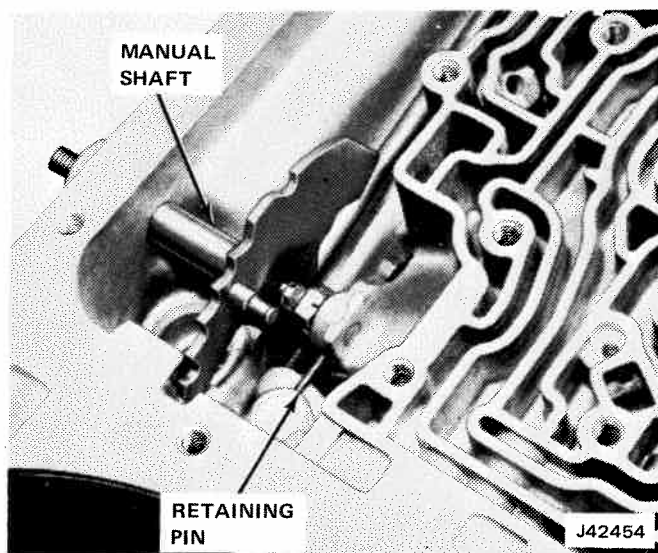

Fig. 7-24 Manual Shaft and Retaining Pin
(1) Unthread jam nut holding detent lever to manual shaft.
(2) Remove manual shaft retaining pin from transmission case, as shown in fig. 7-24.